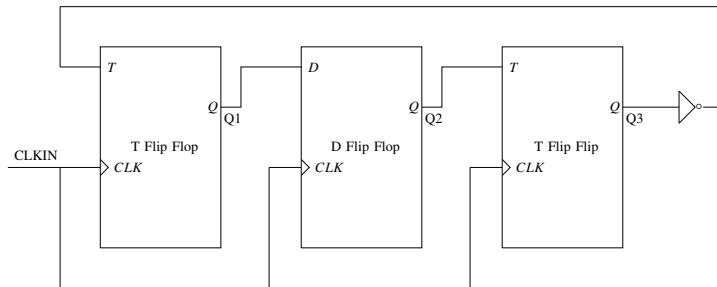

Fig. 5.8
8. Consider a sequential digital circuit consisting of T flip-flops and D flip-flops as shown in Fig. 5.8. CLKIN is the clock input to the circuit. At the beginning,  $Q_1, Q_2$  and  $Q_3$  have values 0, 1 and 1, respectively. Which of the given values of  $(Q_1, Q_2, Q_3)$  can NEVER be obtained with this digital circuit?